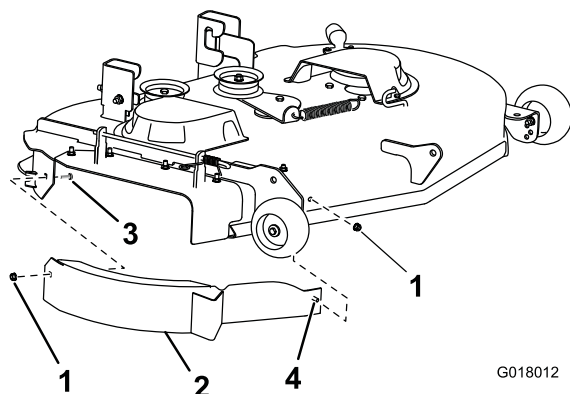

Figure 2
9. Install the baffle assembly to the right-hand side of the mower deck with a carriage bolt (5/16 x 3/4 inch) and 2 flange nuts (5/16 inch) as shown in Figure 2.